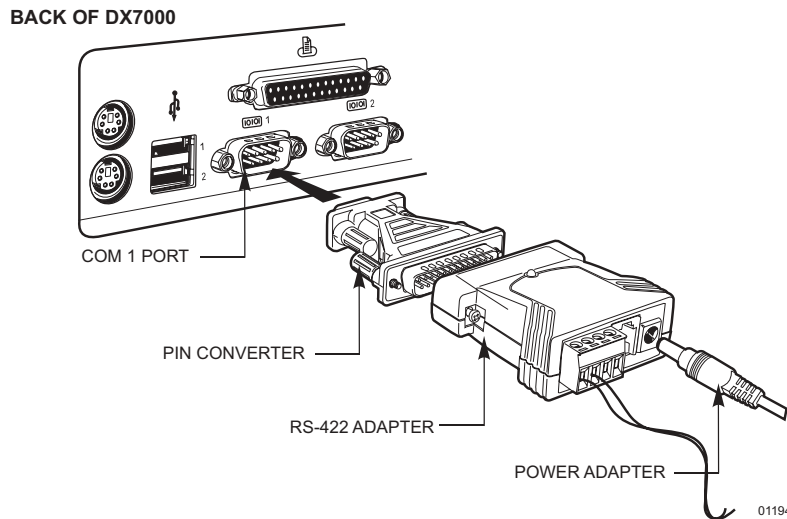

Figure 2. Two-Wire Control System Installation
- 13 COM 1 Serial Port – RS-422 two-wire control output; refer to Figure 2.